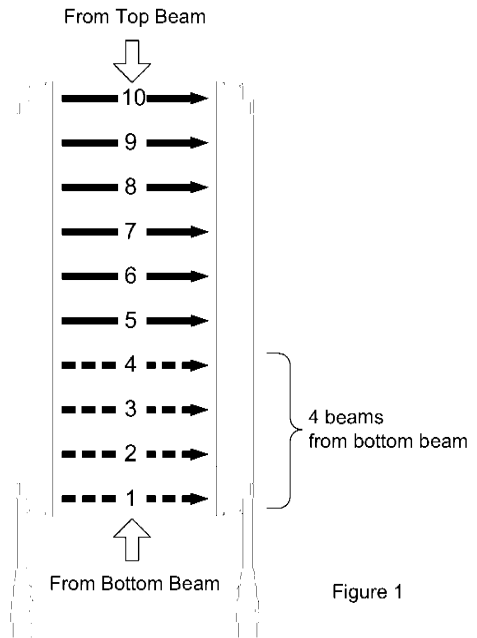

Figure 1
- (1) All Zones (only for series connection)
- (2) From bottom to any beam (Bottom beam indicates one that is closest to the power supply. See figure 1 for a setting example)
- (3) From top to any beam (Top beam indicates one that is closest to the series connection.)
In an example above, peak and bottom values are "123" and "100" respectively. Bottom position is "Lower", thus F3SJ with 60 beams should have a beam with bottom value from beams 1 to 20. (See figures 1)